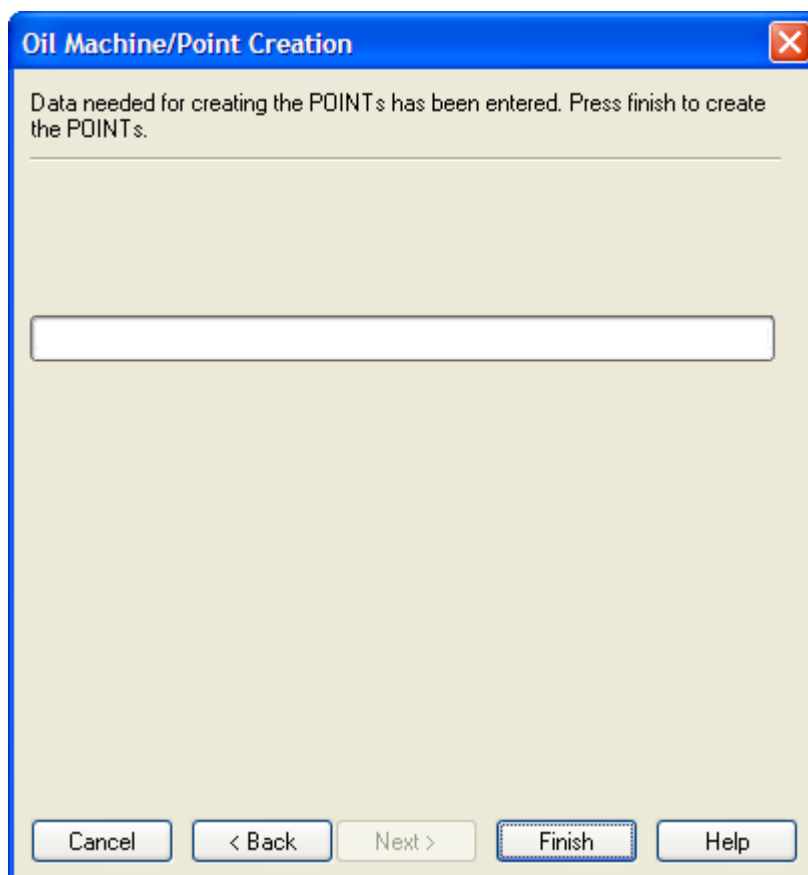

Figure 10. Press [Finish] to create POINTs
13. After the information for all selected POINTS has been entered, press [Finish] to proceed. [Figure 10]